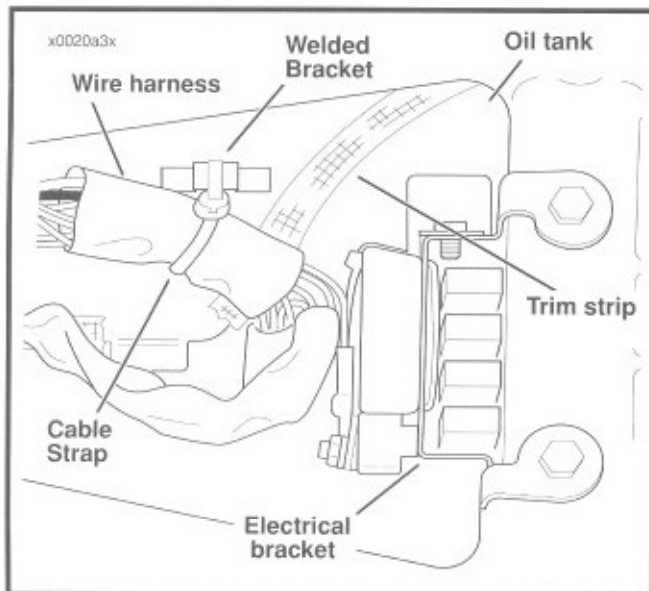

Figure 3-47. Secure Wire Harness
7. Align holes in electrical bracket with wellnuts in cross member of motorcycle frame. Install two bolts. Tighten bolts to 6-9 **in-lbs** (0.7-1.0 Nm) torque. See Figure 3-47.